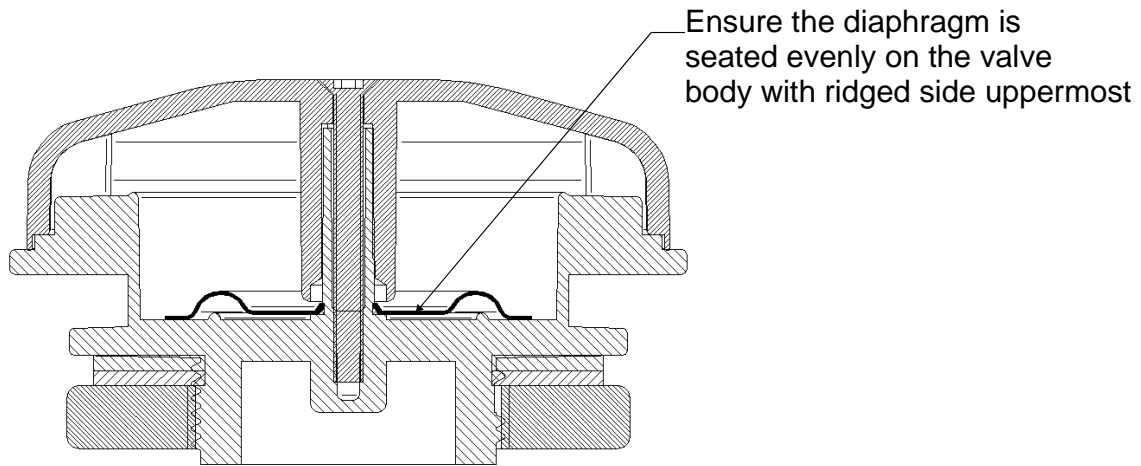

Fig. 14.
4. Carefully slide a new diaphragm down the central spigot until it rests evenly on the valve body. Ensure the diaphragm is correctly orientated with the ridged side uppermost (Fig. 14.).